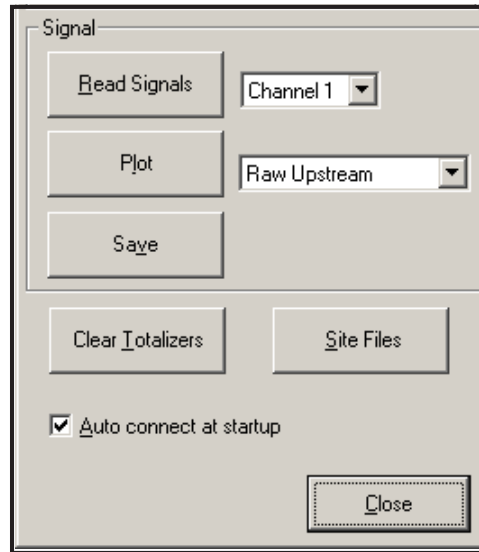

Figure 7: Active Signal Options
- To read a signal from the meter, click on the [Read Signals] button. (If the meter is a multi-channel instrument, open the Channel drop-down menu and click on the desired channel.) After a moment, the *Properties* window appears similar to Figure 7.